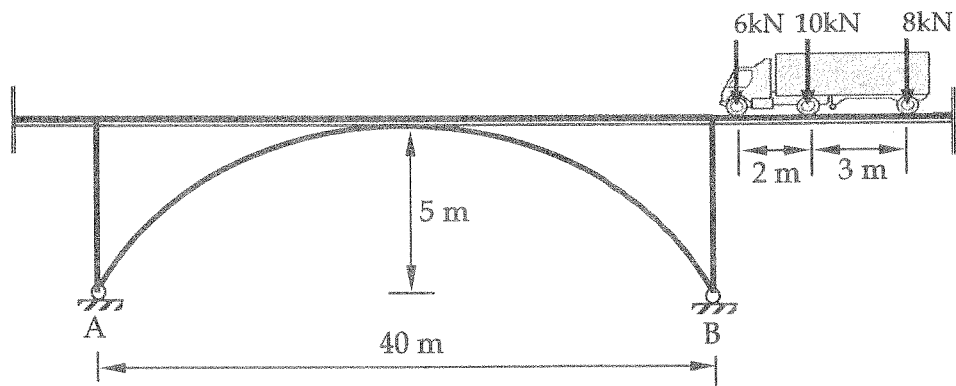

Figure Q3
- Q3. a) A symmetrical two-hinged parabolic arch-rib has its supports in the same elevation and l distance apart from each other as shown in Figure Q3. Rise to the crown of the arch from the level of the supports is h . Show that expression for the horizontal thrust developed at the supports due to a load W placed on the arch k distance from the left support is given by;
- c) Determine the bending moment developed at the crown of the arch shown, due to the wheel loads of a moving truck indicated on the Figure Q3. Take that truck travels from right to left.